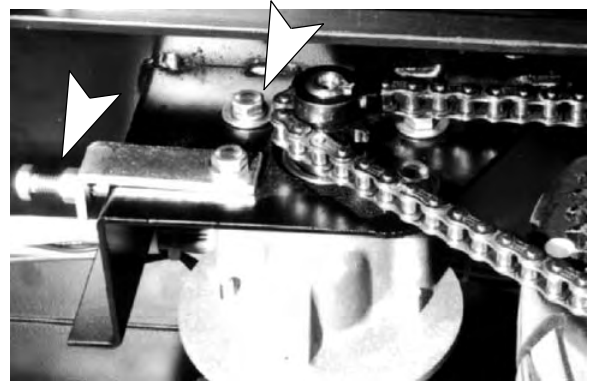

FIG. 40
3. Loosen locking nut on tension bolt (Figure 40).